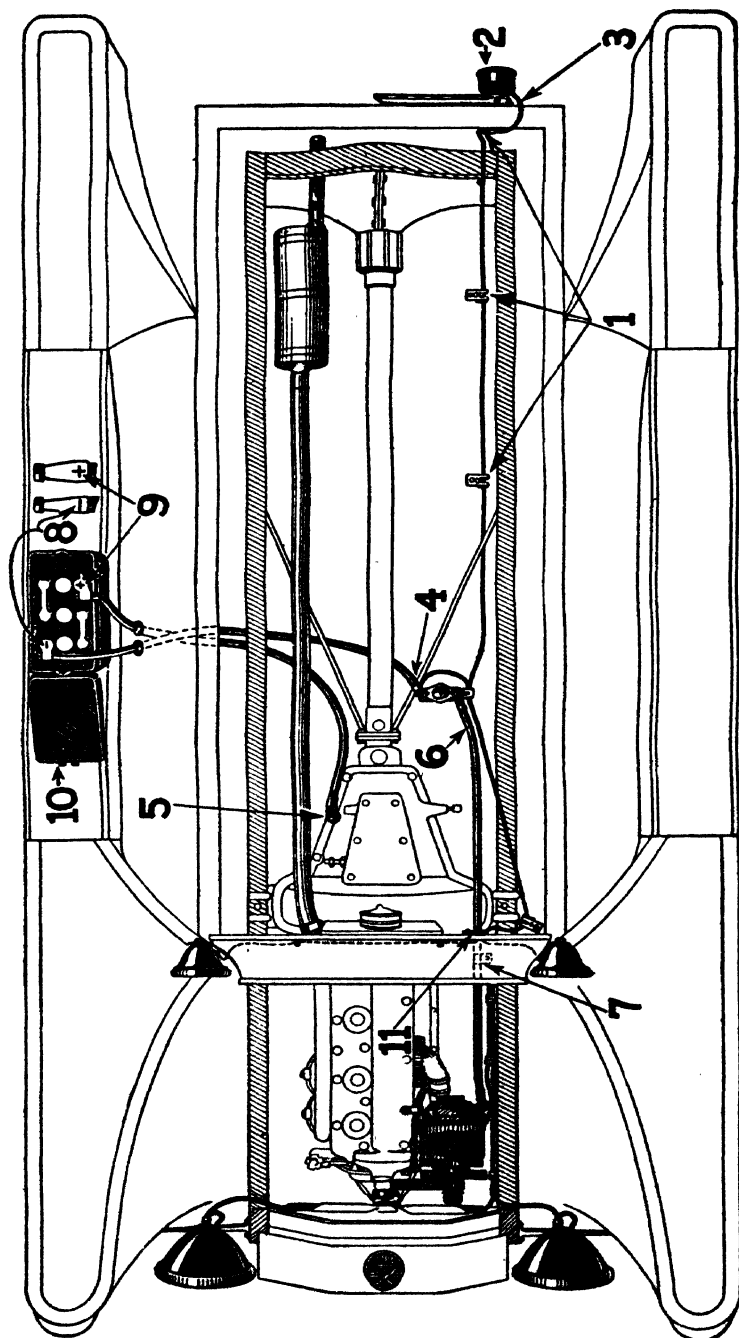
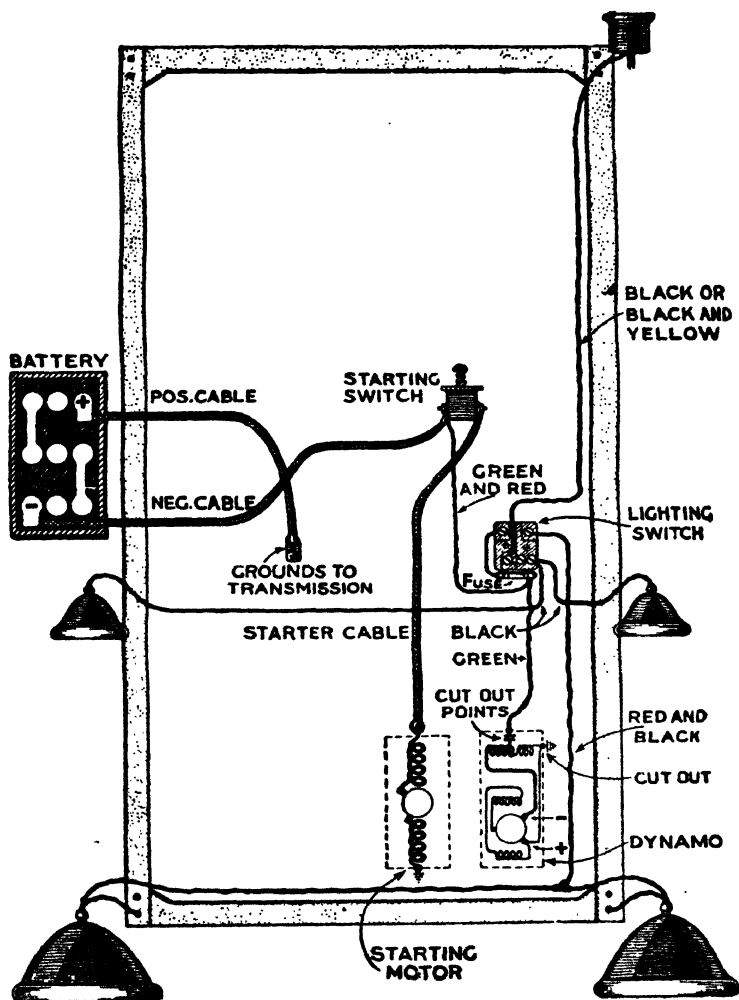

Fig. 378. Plan View of Complete Wiring System for Gray & Davis Ford Installation
Fig. 379. View of Complete Wiring System Simplified
*Final Connections and Adjustments.* Fig. 378 is a plan view of the chassis, showing the entire system in place. Figs. 379 and 380 show the wiring in plan and in perspective. Drill and attach to the woodwork on the underside of the body *1* three wire clips holding the